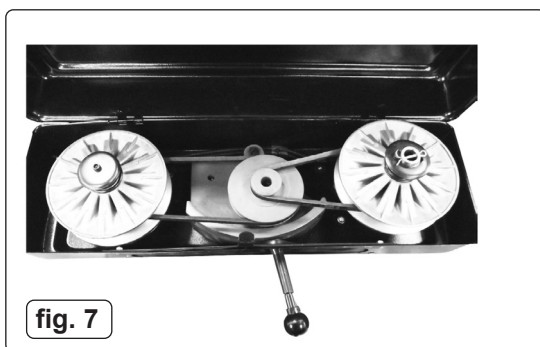

fig. 7
- 8.4.1. Remove the securing screw and open the belt cover (fig.7).